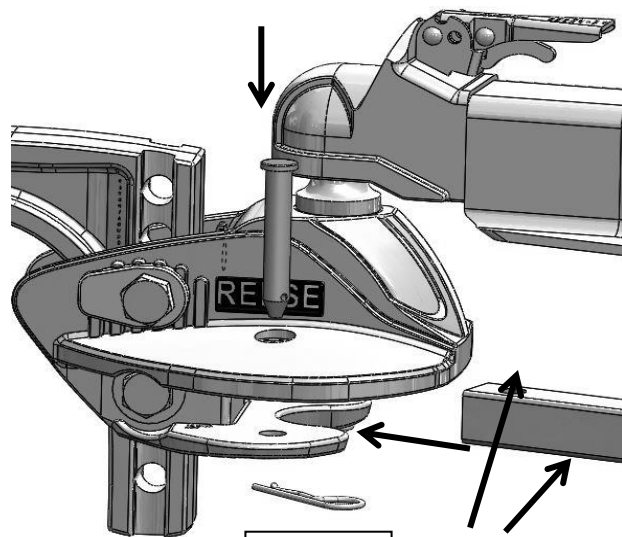

Fig. 11 Lubricate
24. Insert spring bar (**label/taper up, flat side down**) into ball mount and secure with clevis pin and spring clip (see Fig. 11).